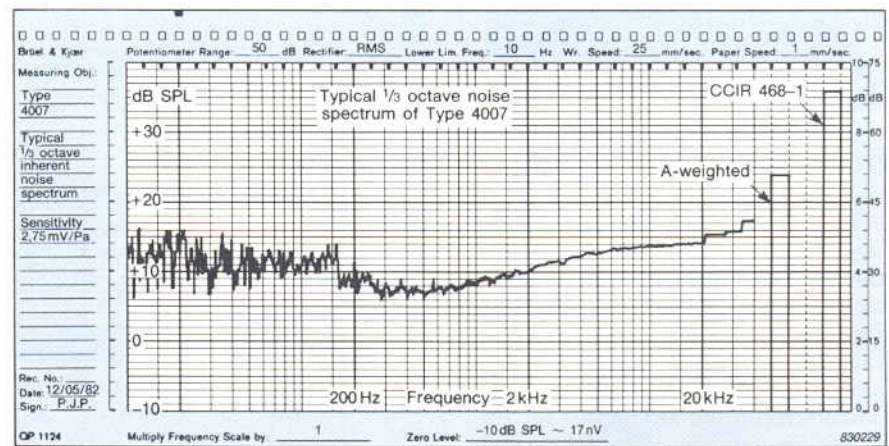

Fig. 12. Typical third-octave inherent noise spectrum of Type 4007
a guaranteed maximum of 26 dB(A). A typical third-octave inherent noise spectrum for Type 4007 is shown in Fig. 12.
**Types 4004 and 4007:** See Fig. 12